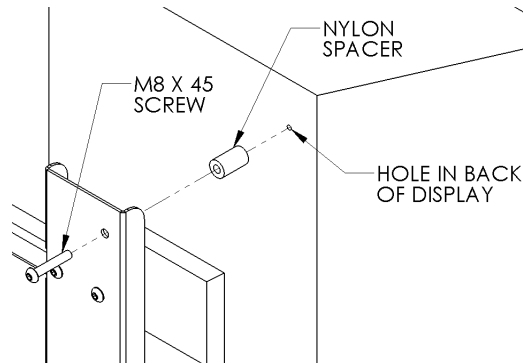
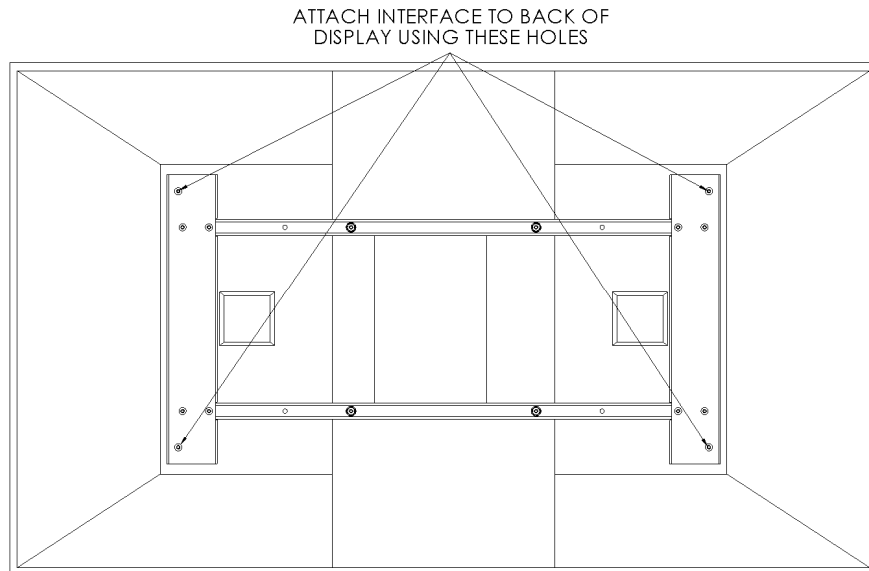

Figure 6
Figure 7
- Place Nylon spacers over mounting holes on back of screen. Attach mounting brackets to the display using the M8 screws (see Figure 6 & Figure 7).